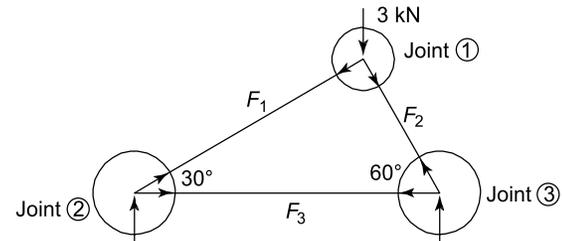
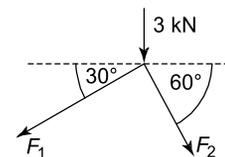

Figure 6.27
Figure 6.28
Firstly, assume all unknowns are in tension, as shown in Figure 6.27.
Next, make imaginary cuts around the joints, as shown by the circles in Figure 6.27. This action will give us three free body diagrams. The first we consider is around joint (1), because this joint has only two unknown forces; see Figure 6.28.